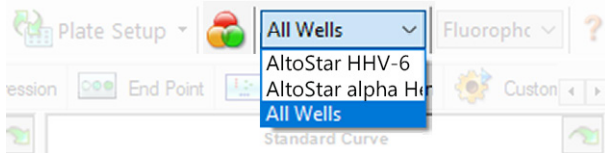

Figure 4: Well Group button and Well Group drop-down menu
In the Data Analysis window ensure to select the **Well Group** of the AltoStar® HHV-6 PCR Kit 1.5. Therefore, click on the **Well Group** drop-down menu right next to the **Well Group** button (see figure 4) of the toolbar. Do not use the “All Wells” **Well Group**. The selection in figure 4 is used as a general example view.
1. In the Data Analysis window ensure to select the **Well Group** of the AltoStar® HHV-6 PCR Kit 1.5. Therefore, click on the **Well Group** drop-down menu right next to the **Well Group** button (see figure 4) of the toolbar.